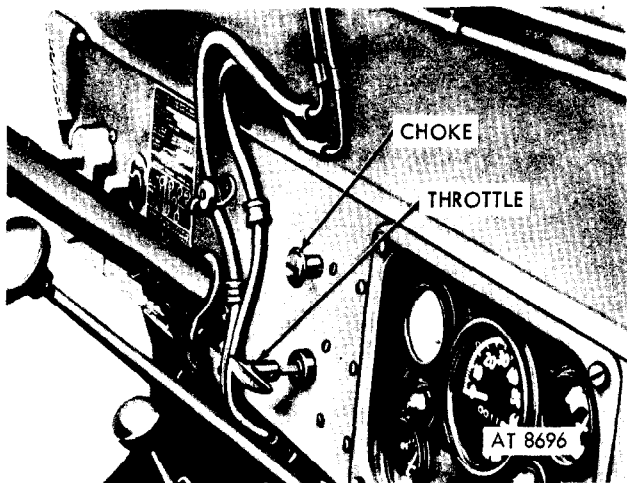

Figure 2-7. Choke and throttle.
d. Pull choke control as necessary (figs 2-7, 2-1-(D)).
g. Adjust throttle (figs 2-7, 2-1-(E)), only
*i.* Push in choke control (figs 2-7, 2-1-(D)), when engine warms up.